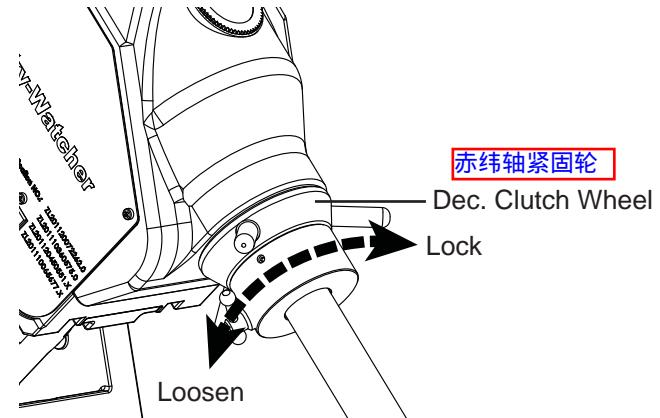

Fig. 2.1b
3. Release the Dec. clutch wheel to manually rotate the Dec. axis. (Fig. 2.1b) 3. 松开赤纬轴紧固轮以便能够手动转动赤纬轴 (见图2.1b)